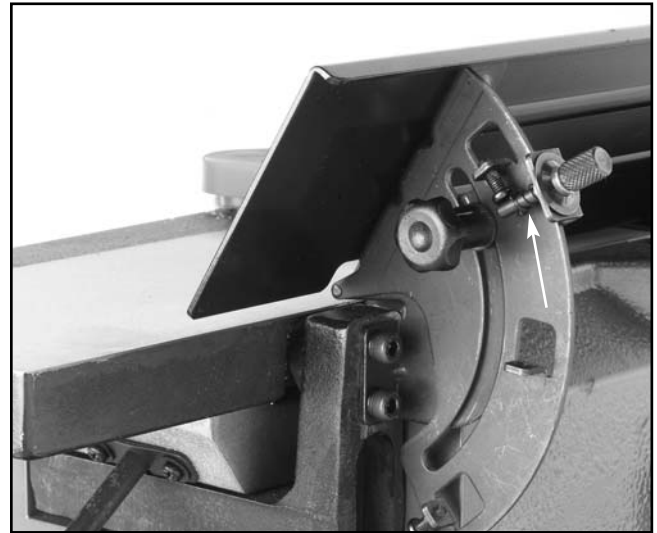

Figure 9. Positive stop pin.
3. Behind the right end of the fence is a positive stop pin (shown in **Figure 9**) to stop the fence at 45° , 0° , and -45° .